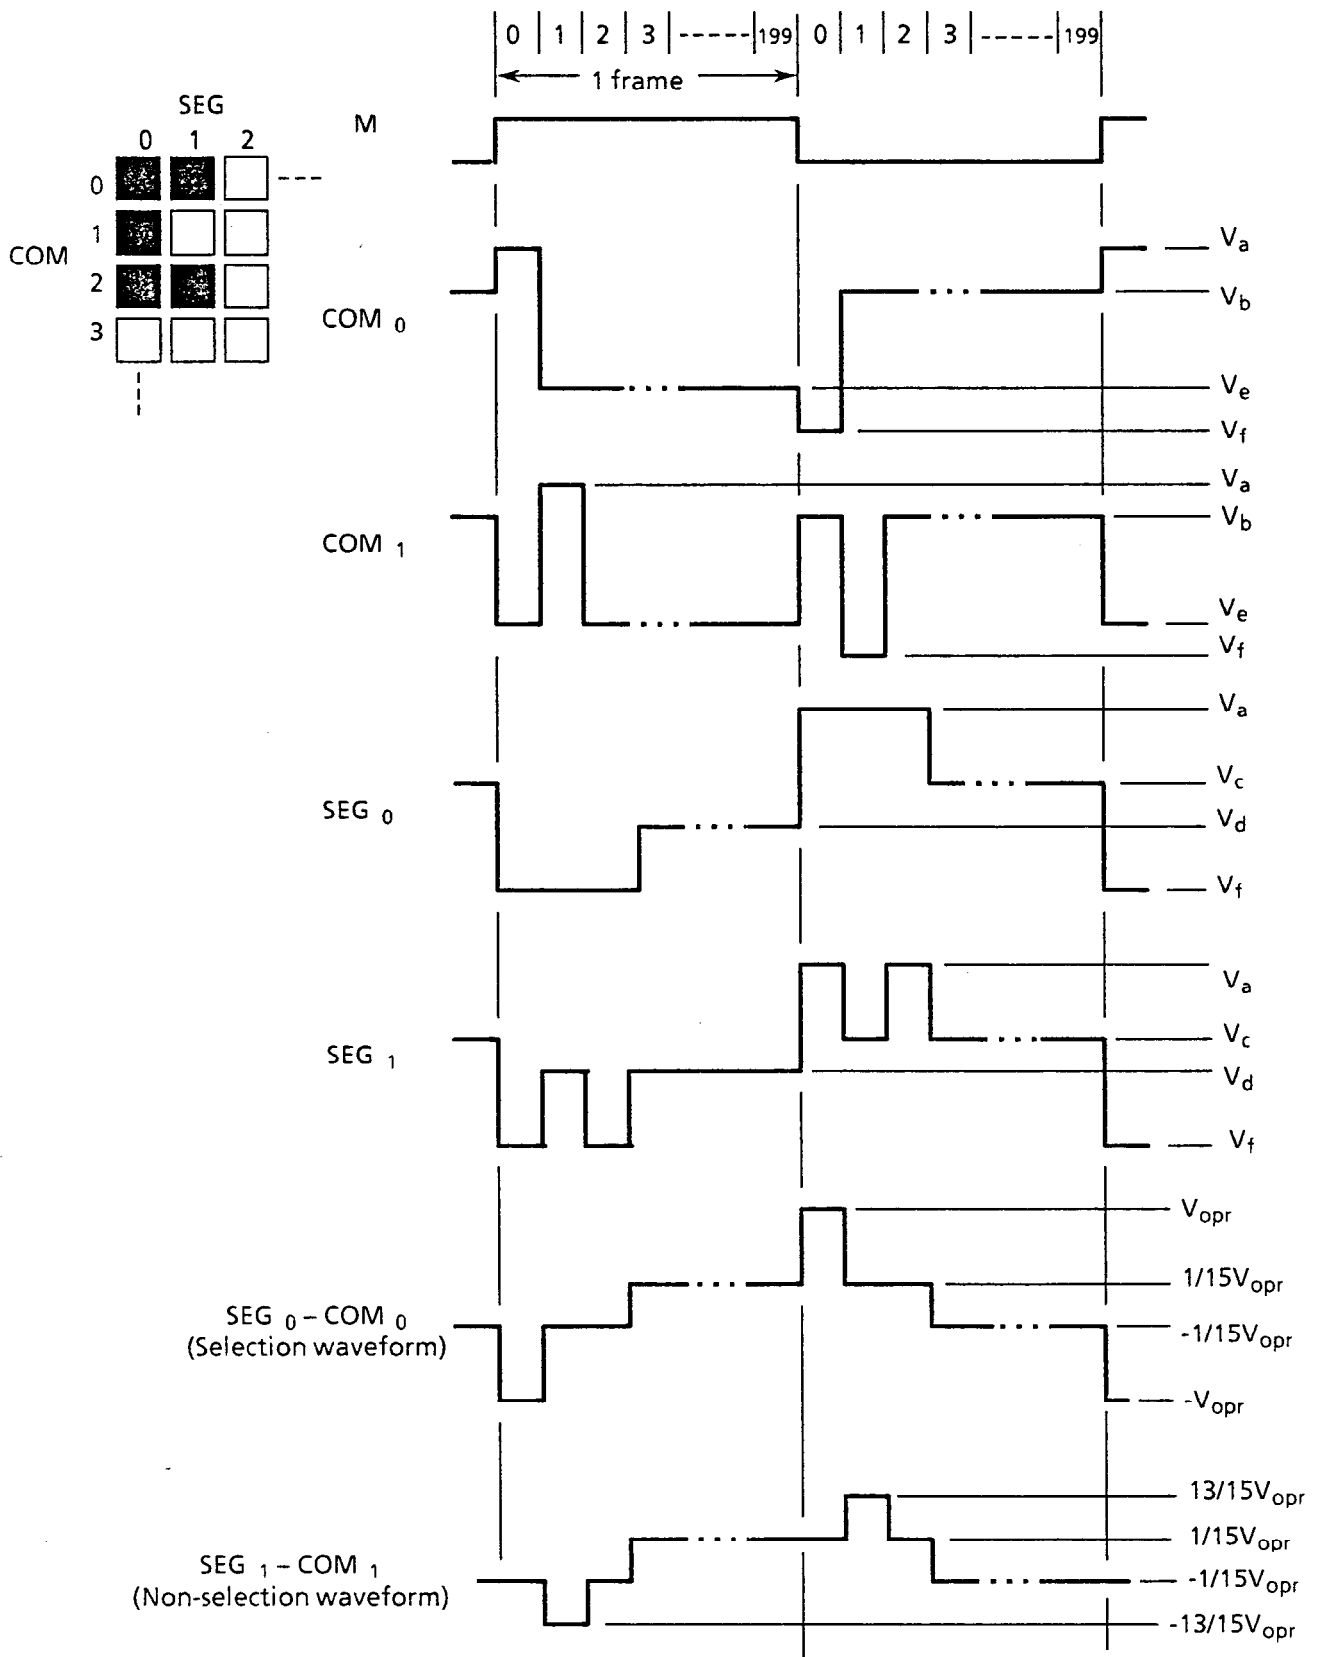

Figure 2 Drive waveform
The drive waveform of the LCD panel is shown in Figure 2 on the next page. Since DC voltage will damage the liquid crystal, an AC voltage is applied between the two frames. The signal controlling this is the liquid crystal AC drive control signal (M).
The G648D has a 1/200 duty cycle, and the common electrodes are selected within a frame by time division from electrode 1 to electrode 200. This is called line sequential scanning. The voltage level of the segment electrodes determines whether the dots at the intersection of the segment electrodes are selected or not, when the common electrode is selected. As shown in Table 1, there are six drive waveform voltage levels, V_a to V_f . The voltage level is determined by the bias value. The voltage between the segment and common electrodes is thus applied to the liquid crystal. The selection waveform for SEG₀-COM₀ and the non-selection waveform for SEG₁-COM₁ are shown in Figure 2. The size of the effective voltage of the waveform determines whether the liquid crystal under the selected dots is in the selection or non-selection state.